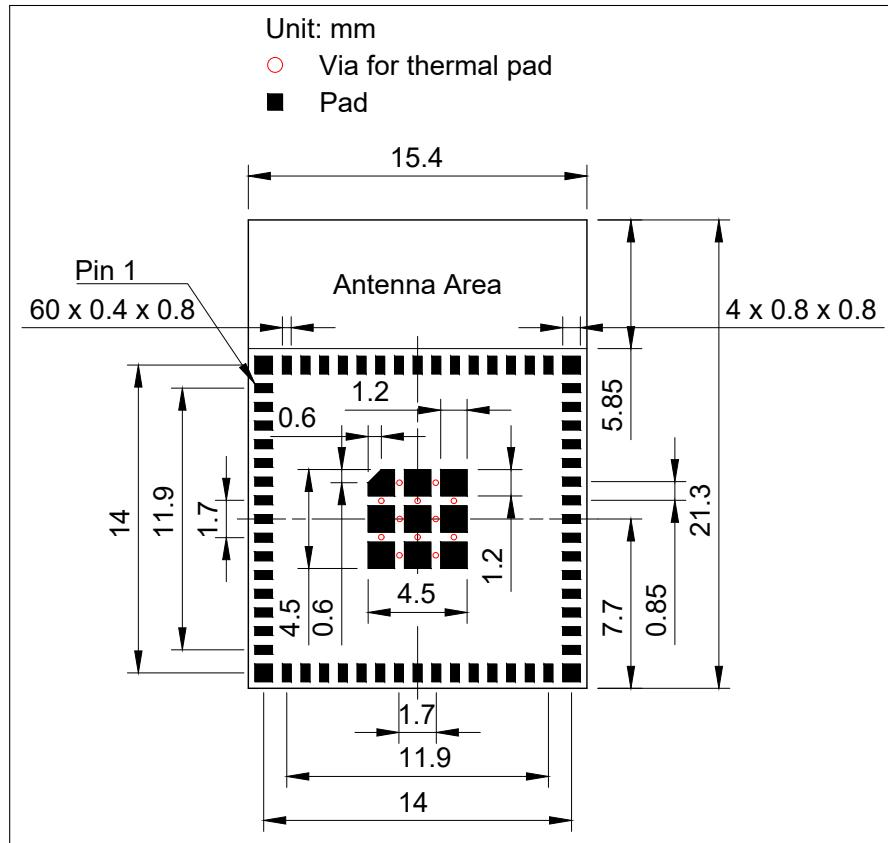

Figure 11-1. ESP32-C5-MINI-1 Recommended PCB Land Pattern
- Figures for recommended PCB land patterns with all the dimensions needed for PCB design. See Figure 11-1 ESP32-C5-MINI-1 Recommended PCB Land Pattern.
- Source files of recommended PCB land patterns to measure dimensions not covered in Figure 11-1. You can view the source files for ESP32-C5-MINI-1 with Autodesk Viewer.